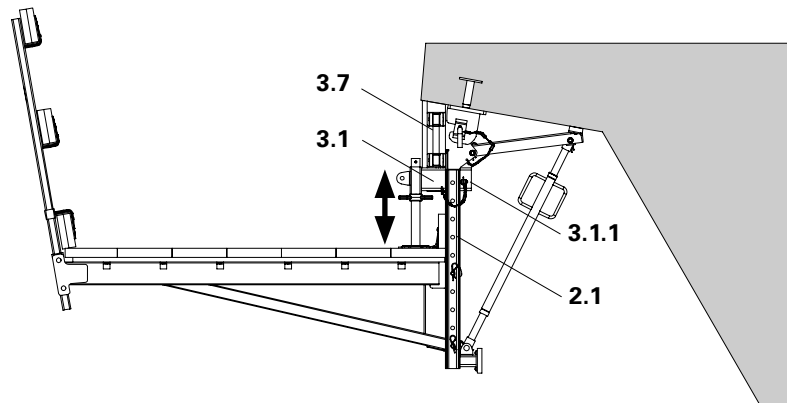

Fig. B3.01
5. Position Internal Stopends (3.7) on the Formwork Fixing and adjust. (Fig. B3.01)